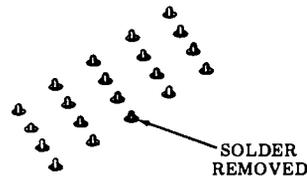

Fig. 14—Connector Pins
(c) Remove solder from around connector pins of cable to be removed (Fig. 14).
- (b) Remove solder from around connector pins of cable to be removed (Fig. 14).